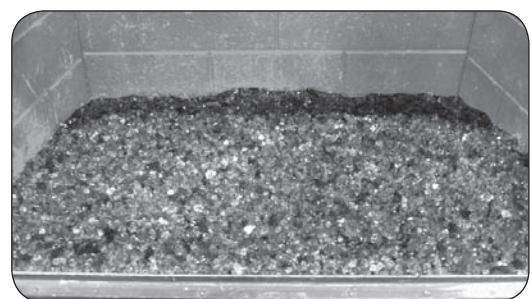

Fig. 17-6
Note: At this stage the burner will function as designed; however, more glass / gems may be added around the burner for decorative purposes. If glass / gems are desired behind the burner pan, they may be left at a lower level than the back of the pan, as shown in Fig. 17-6, or raised up to or above the level in the back of the pan.
2. Add additional glass / gems around the burner pan as desired (Fig. 17-6).